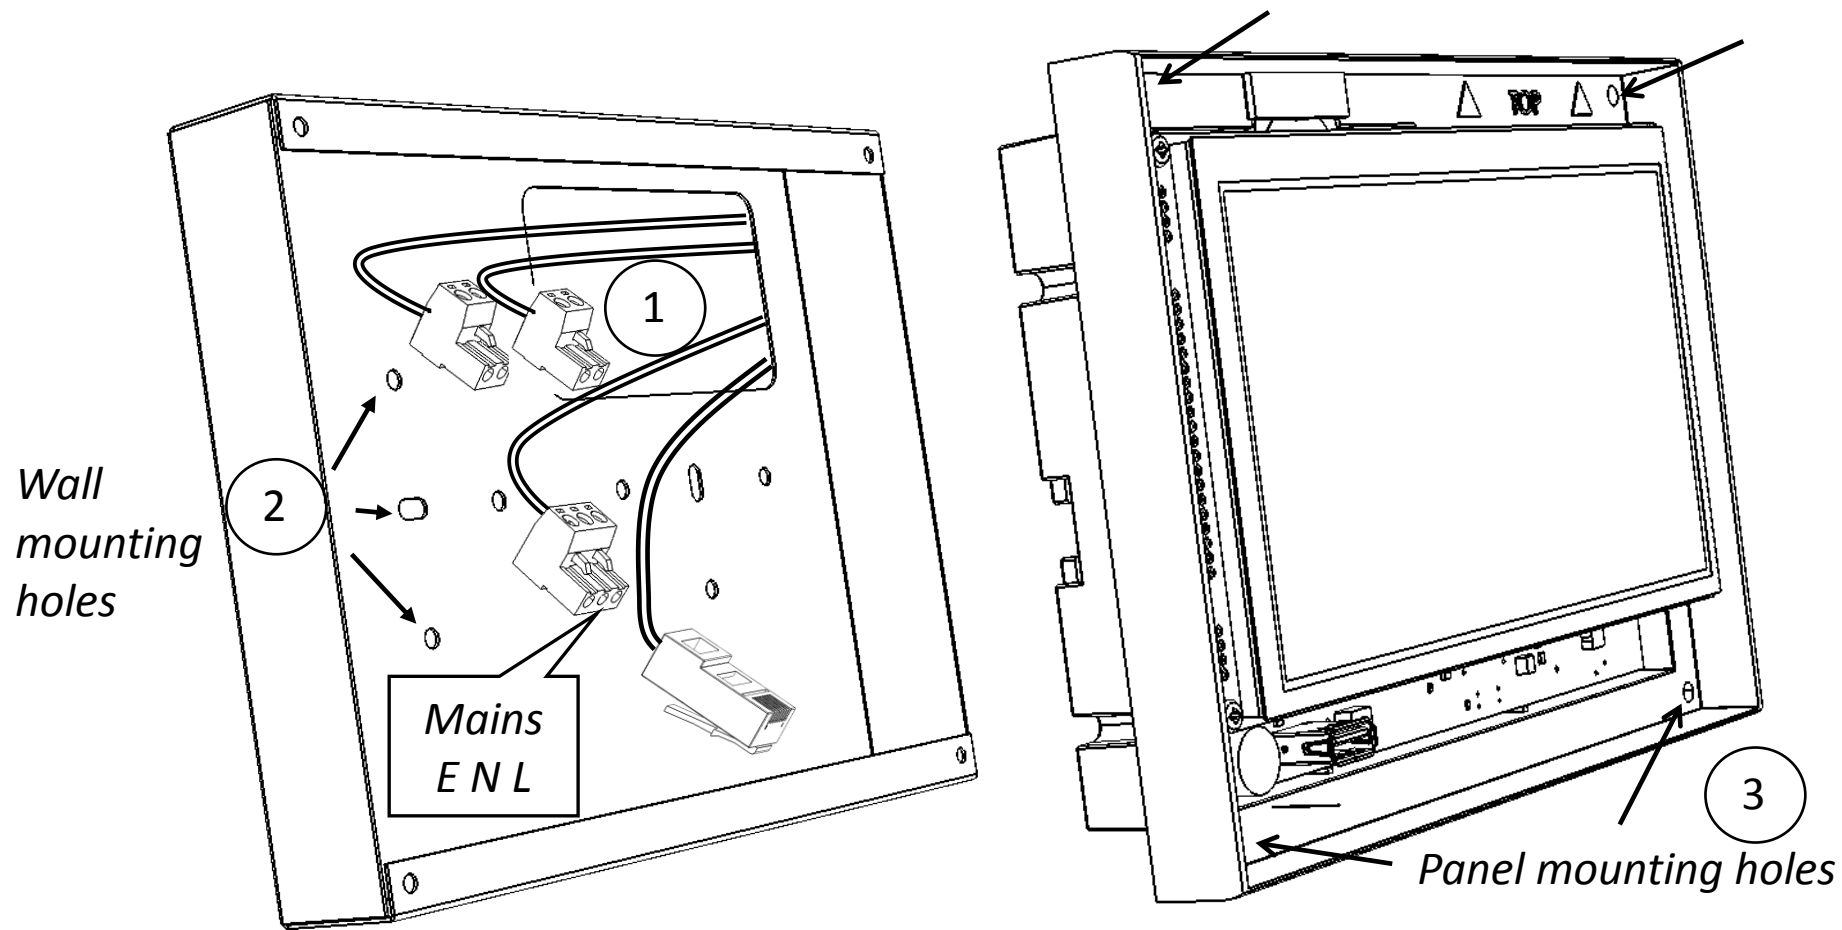

Figure 5 Panel Installation
To install panel, perform the following steps as shown in Figure 5
- Fix the panel with mounting box while avoiding any trapped wires and secure it to mounting box using the provided self-taping screws through panel mounting holes as shown in Figure 5